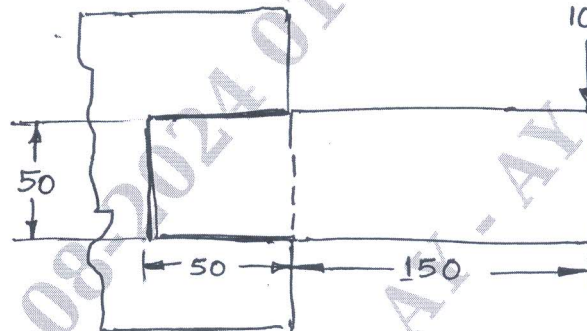

Fig.Q8(b)
- b. A welded connection of steel plates as shown in Fig.Q8(b) is subjected to an eccentric load of 10 kN. Determine the throat dimension of weld, if the permissible stress is limited to 95 N/mm^2 . Assume static conditions.